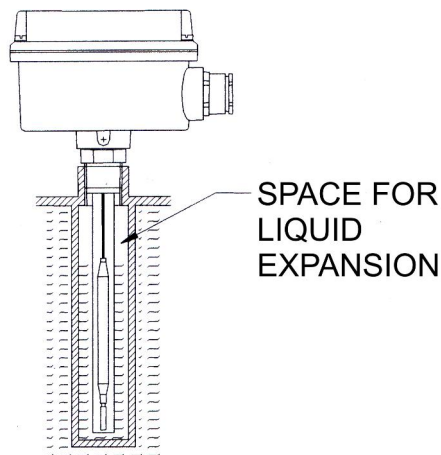

Fig. 3
- Additional protection wells (Fig. 3):